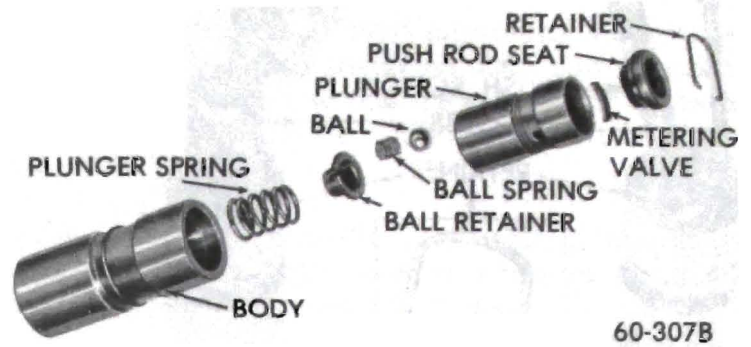

Figure 60-28 - Hydraulic Valve Lifter Parts
16. Hold plunger in vertical position with feed hole up, then rinse and install the check ball, check ball spring, ball retainer, spring, and body over the plunger. See parts in Figure 60-28.